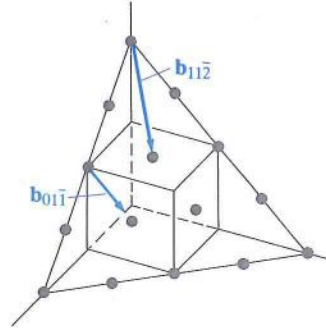

**FIG. 8-3.10**
\* See Section 3-7 for  $(hkil)$  indices of hexagonal crystals. \*\* See Example 8-3.1 and Fig. 8-3.10.
*Answers* See Fig. 8-3.10. Each of the four planes of the  $\{111\}$  family has three slip directions. Thus, we have